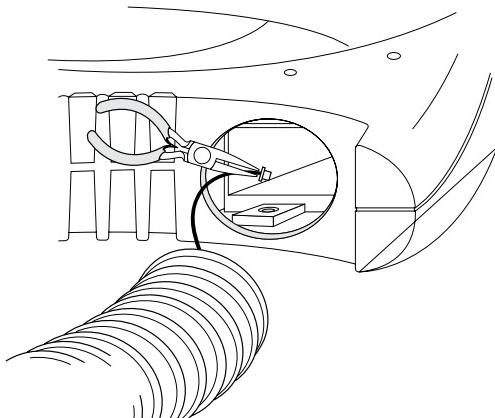

Figure 10. Wire connector.
6. Unplug the wire connector so the hose assembly is separated from the unit (see Figure 10).
5. Disconnect the hose and the temperature controller wire connector (see Figure 10).